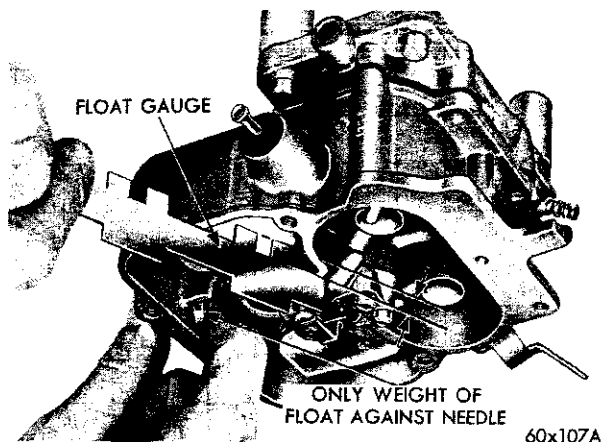

Fig. 30—Measuring the Float Setting
(1) To correctly set the float height when the carburetor is being overhauled, install the floats with the fulcrum pin and pin retainer in the main body.
(2) Install the rubber-tipped needle, seat and gasket in the body and tighten securely.
(3) Invert the main body so that the weight of the float only is forcing the needle against the seat. Hold finger against the retainer to fully seat the fulcrum pin.
(4) Using Tool T109-282, or a "T" scale, test the float, as shown in Figure 30. There should be $\frac{1}{4}$